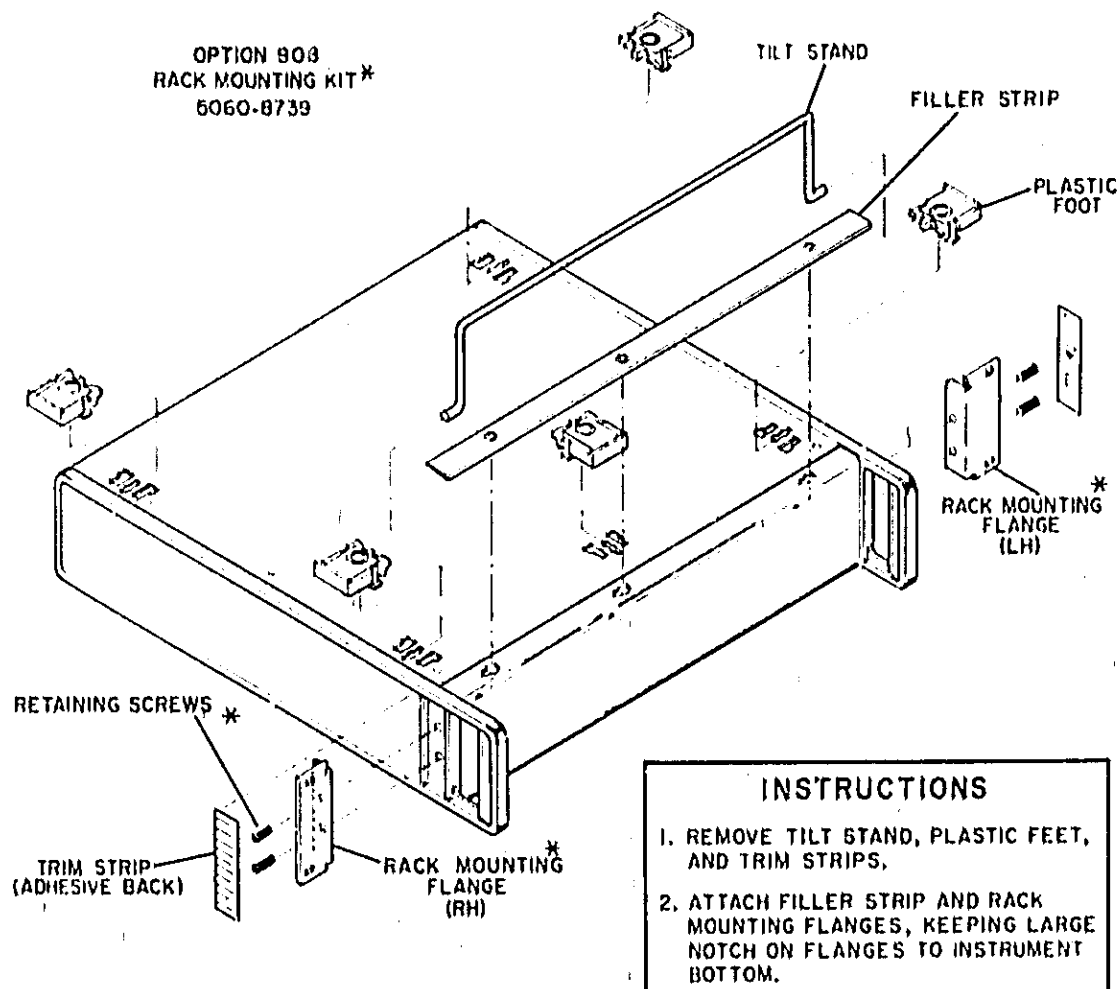

Figure 2-1. Conversion to Rack Mount
- a. Remove trim strip on sides of instrument (see Figure 2-1).